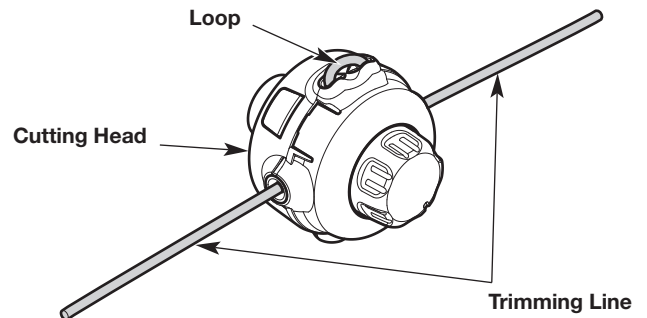

Fig. 33
1. Remove the old line from the cutting head. Push one end of the trimming line into the cutting head until a loop of line protrudes from the head. Pull the loop to remove the line (Fig. 33).
4. Pull the ends of the line until the line is tight against the cutting head. Make sure the ends of the line are of equal length (Fig. 33). If one end is longer than the other, push the longer end back through the cutting head partway and pull the shorter end out. If necessary, repeat this process until both ends are of equal length.
5. Press the exposed loop of trimming line until it is tight against the cutting head (Fig. 33).